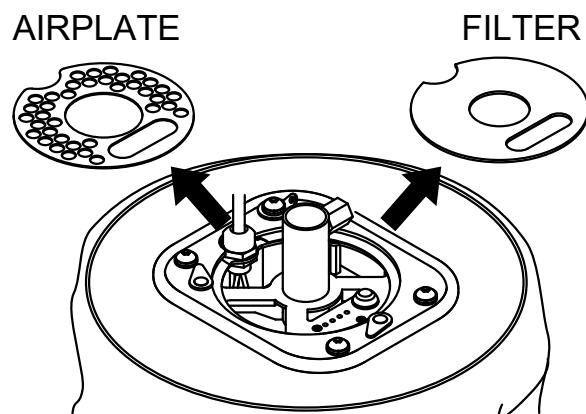

Figure 39. Removing Air Filter
3. Remove the air plate and the filter (Figure 39).